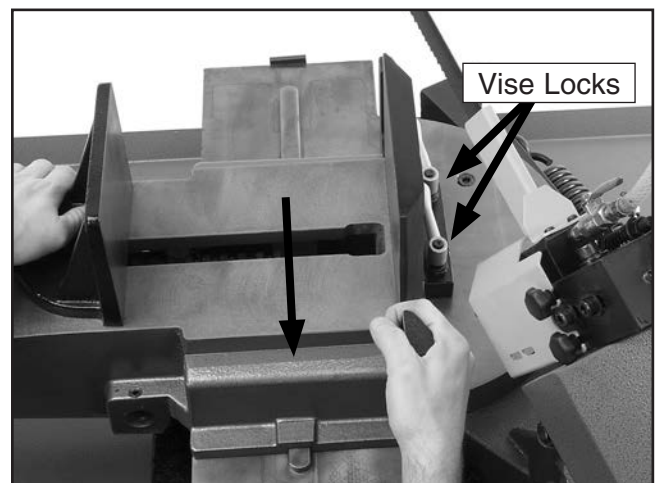

Figure 14. Changing vise positions.
3. Loosen the two vise locks at the base of the vise and remove the upper chip tray (see Figure 14).